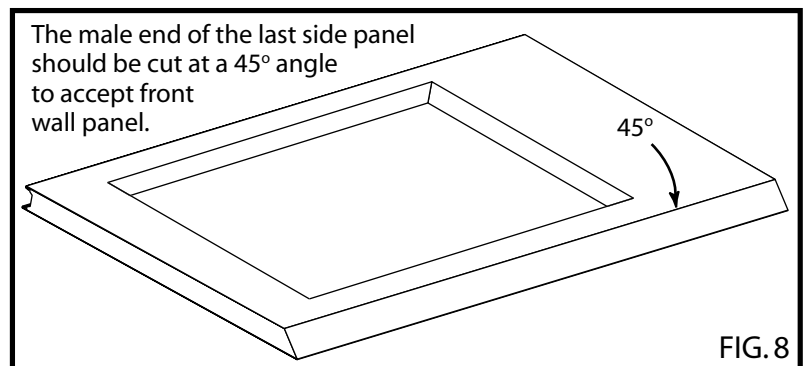

FIG. 8
will have to be cut at a 45° angle to accept the front wall panel. [FIG 8]
- [10] Cut front wall panels to finished wall height. The panels adjacent to side walls must be cut at a matching 45° angle. [FIG 8]